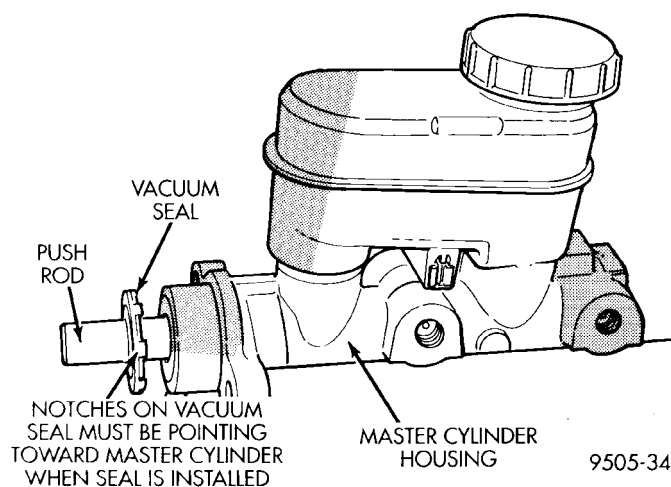
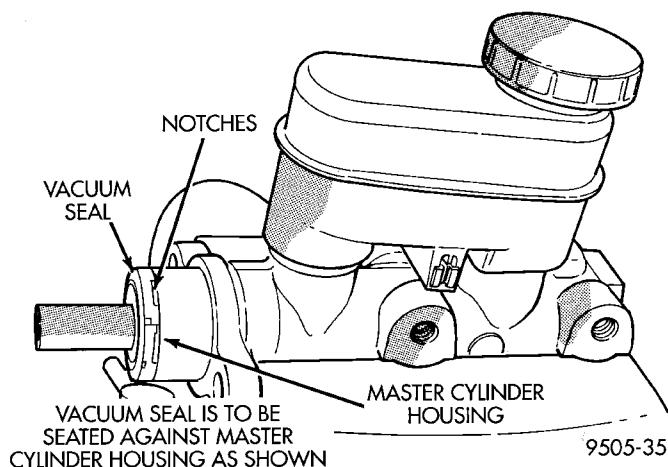

Fig. 110 Installing Vacuum Seal On Master Cylinder Push Rod
Fig. 111 Vacuum Seal Positioned For Installing Master Cylnder
(2) Install vacuum seal on master cylinder push rod as shown in (Fig. 110) with notches on vacuum seal pointing toward master cylinder housing. Then slide vacuum seal onto master push rod until seal is seated against master cylinder housing (Fig. 111) before installing master cylinder on power brake vacuum booster.